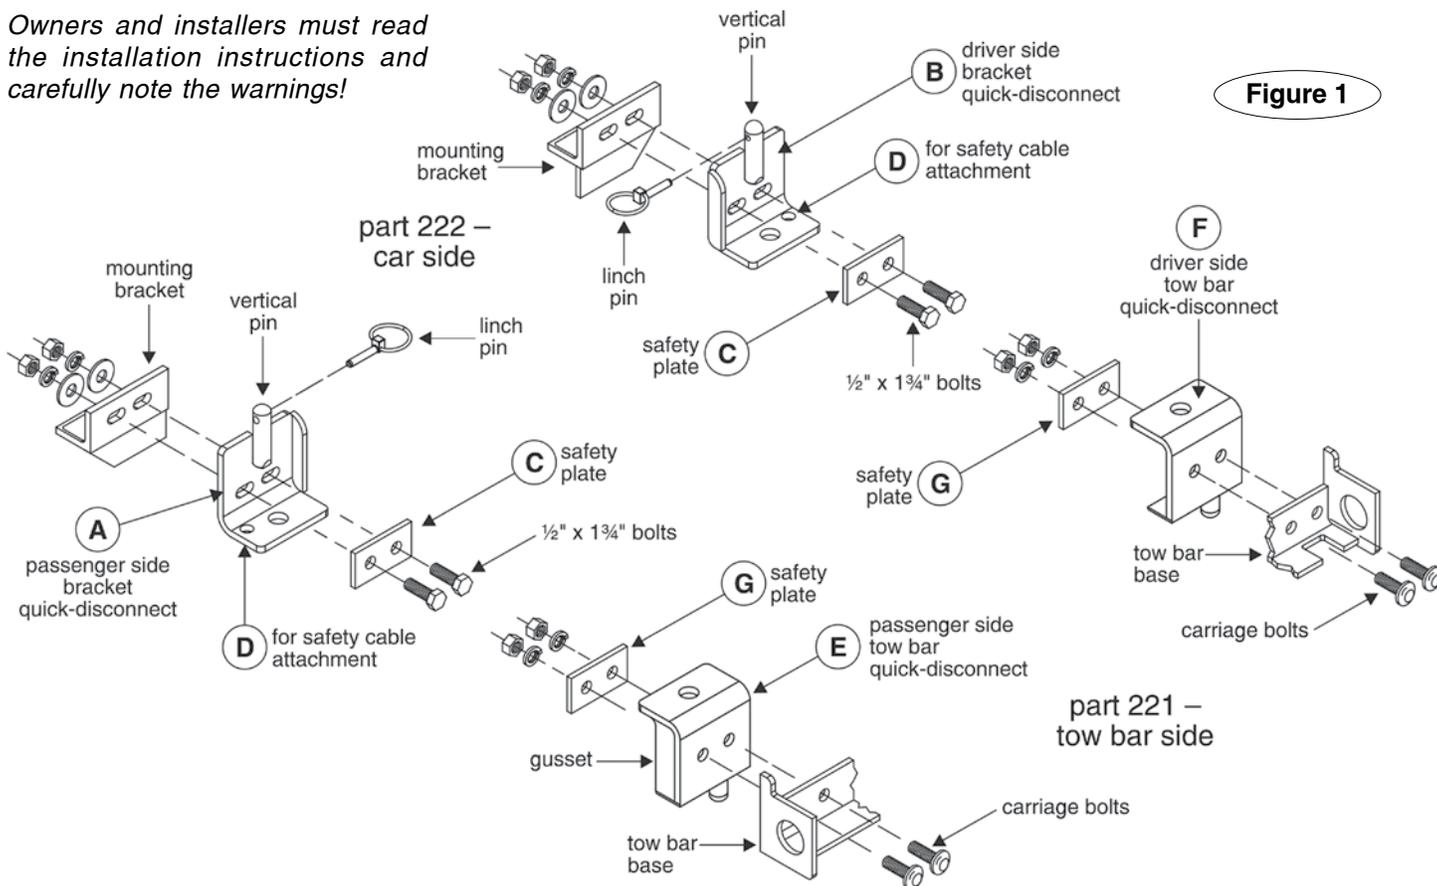

Figure 1
1. First, attach the bracket quick-disconnects (“QDs,” parts “A” and “B” in Figure 1) to the tow bar mounting brackets. Attach the QDs so that the vertical pin on each is pointing up, as shown in Figure 1.
Attach part “A” on the passenger side, and part “B” on the driver side. Use the supplied 1/2" x 1 3/4" bolts, the two safety plates (parts “C”), and the flat washers, lock washers and nuts, as shown in Figure 1.
Note that both bracket QDs have an extra hole – “D” in Figure 1 – for safety cable attachment. Mount parts “A” and “B” so that the “D” holes are to the outside.
Position the tow bar quick-disconnects ("QDs," parts "E" and "F" in Figure 1) over the carriage bolts.
Make certain that "E" is on the passenger side and "F" is on the driver's side – when positioned correctly, the gusset (Figure 1) will be to the outside.
2. Next, position the safety plates ("G" in Figure 1) over the carriage bolts.
3. Attach the QDs with the lock washers and nuts, as shown in Figure 1.